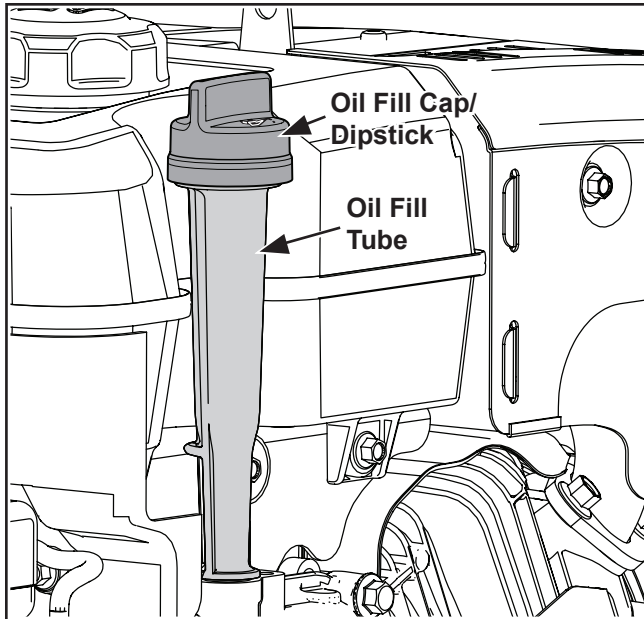

Figure 26. Oil Fill Cap/Dipstick and Oil Fill Tube.
2. Clean the area around and beneath the dipstick before removing it. This will help keep snow, ice, and other foreign matter out of the engine. See Figure 26.
6. Reinstall the oil fill cap/dipstick and tighten securely. See Figure 26.
1. To keep snow, ice, etc., out of the engine, clean the area around the oil fill cap/dipstick before removing it. See Figure 26.
2. Remove the oil drain plug and the oil fill cap/dipstick. Allow ample time for complete drainage. See Figures 26 and 28.
5. Reinstall the oil fill cap/dipstick and tighten securely. See Figure 26.